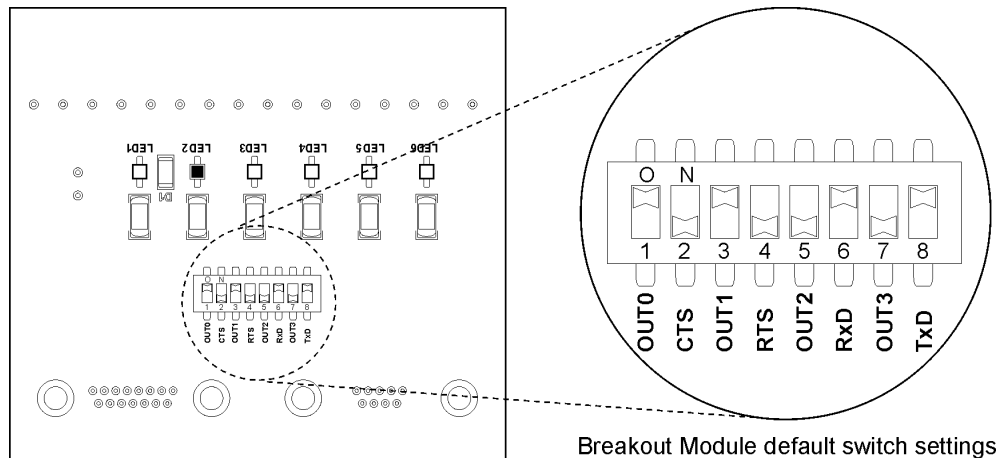

Figure 4. Breakout Module Default DIP Switch Settings
- b. Turn the circuit board over and locate the DIP switch. Figure 4 shows a close-up of the default switch settings.